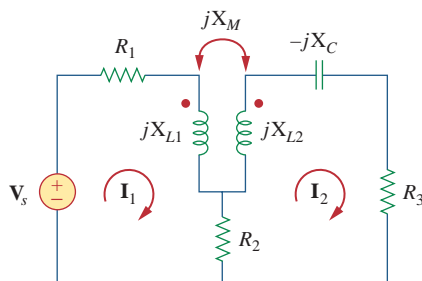

Figure 13.90
- 13.21** Using Fig. 13.90, design a problem to help other students better understand energy in a coupled circuit.